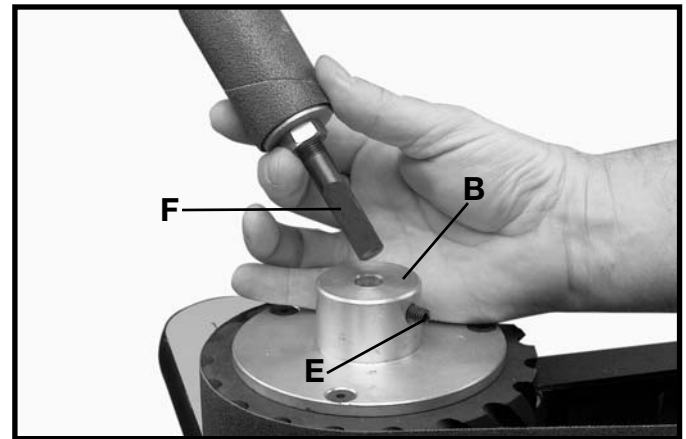

Fig. 13
3. Three abrasive drum spindles are supplied as standard equipment with the edge sander. Loosen set screw (E) Fig. 13, in adapter plate (B), and insert the desired abrasive drum spindle, one of which is shown at (F), into the adapter plate (B). **NOTE:** Make certain flat on spindle (F) is facing set screw (E).